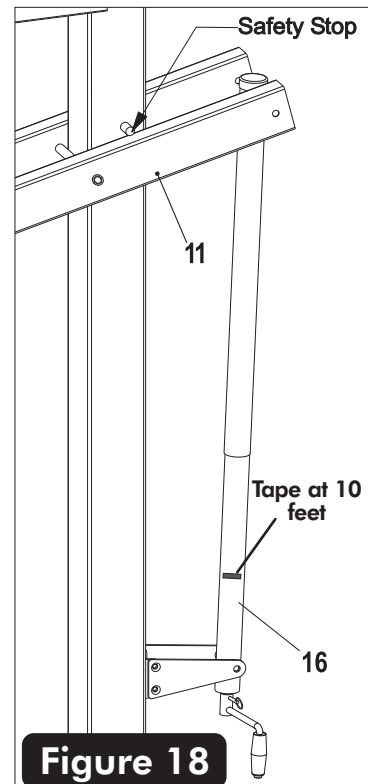

Figure 18
38. Lower backboard all the way down. Do not force actuator once backboard is in it's lowest position. See **Figure 18**.